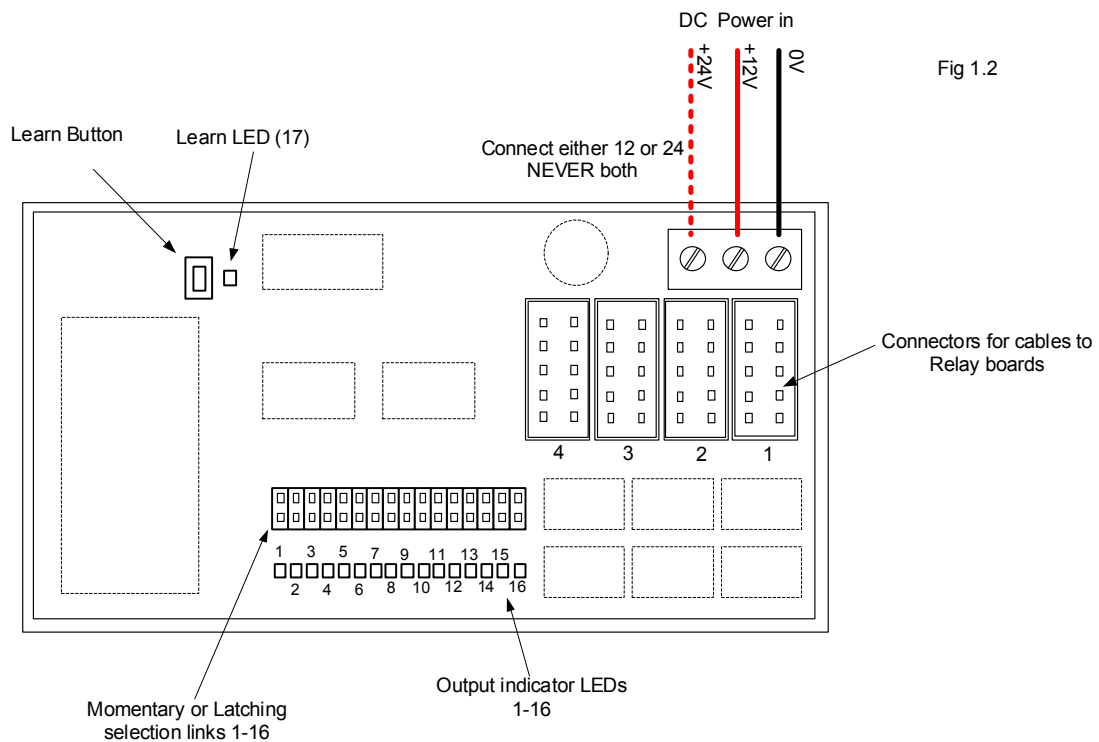

Fig 1.2
2. The learn LED (LED17) should illuminate (Fig 1.2)